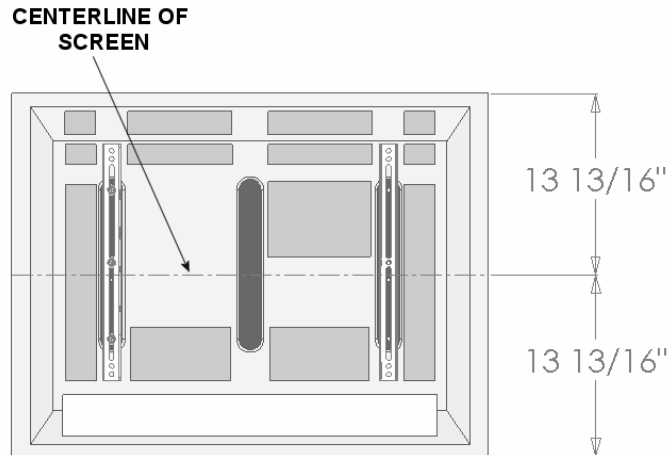

Figure 6. Center Line of Display
3. Find the center line of the display (see Figure 6).